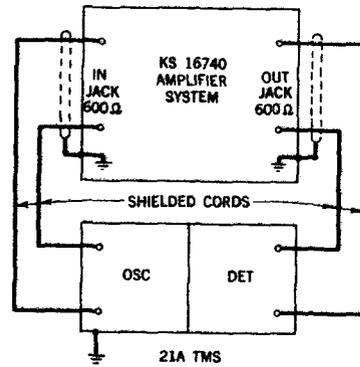

Fig. 1 – Test Setup for Gain-Frequency Test
4.01 The test setup for measuring the gain-frequency response is shown in Fig. 1. Chart I outlines the step procedure to be followed when making the test. The procedure may vary slightly depending on the testing equipment used.
2	Connect circuit as shown in Fig. 1.
9	Without changing OSC output level, reconnect circuit as shown in Fig. 1.